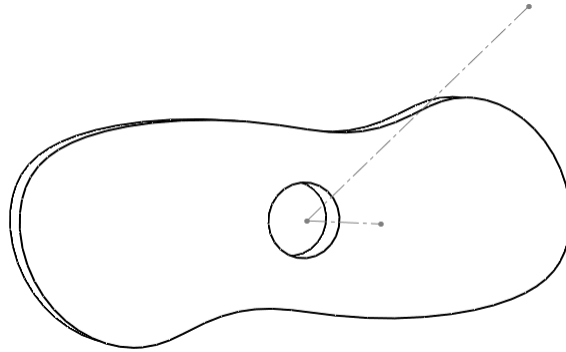

Figure 6: Solidworks user interface: inserting the first cam
- Concentric mate between the endpoint of the sketch line drawn in Figure 6 and the pivoting point of the rocker arms.